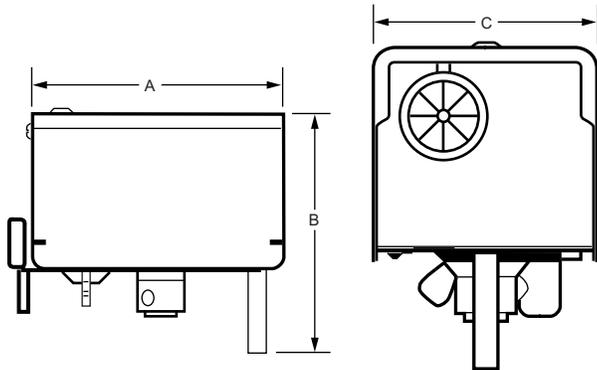

Fig. 5. Motor dimensions in inches (mm).
**Motor Dimensions:** See Fig. 5.
\* Nominal Device Dimensions (see Fig. 5).